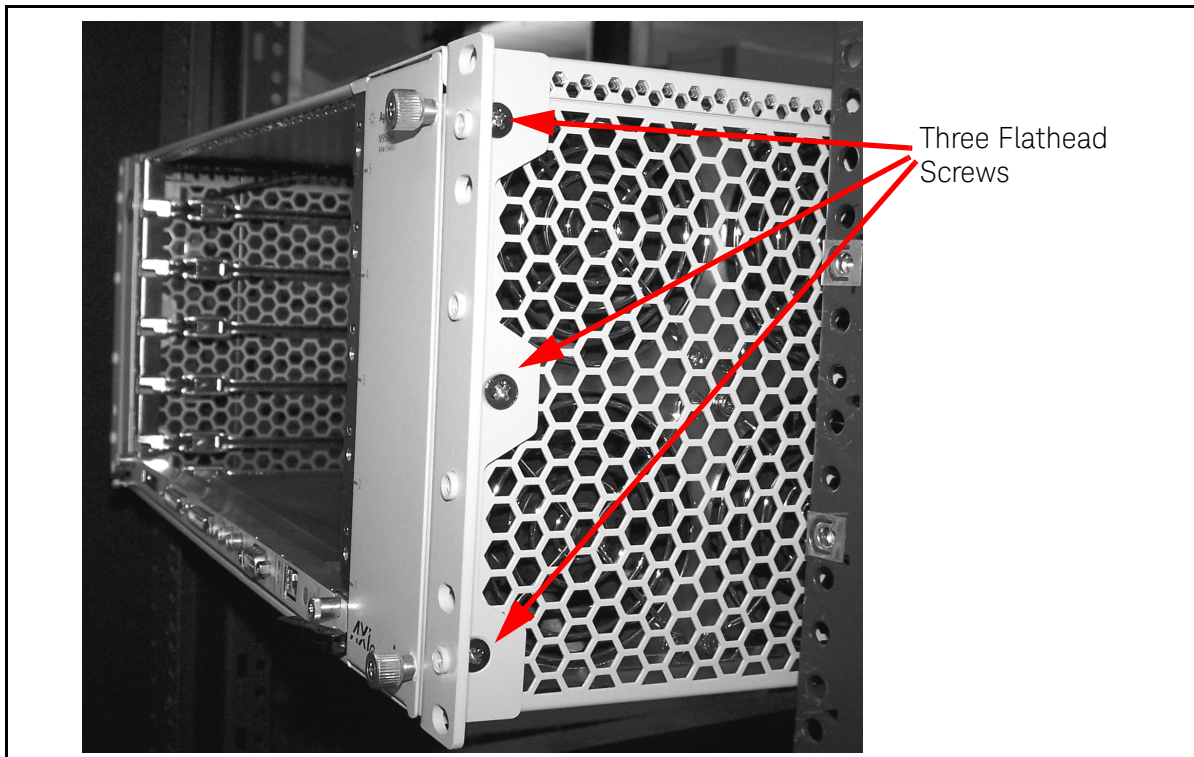

Figure 5 . Attaching Rack Mount Flanges to M9505A Chassis
- 7 Attach the rack mount front handle flanges to the chassis. Refer to Figure 5.